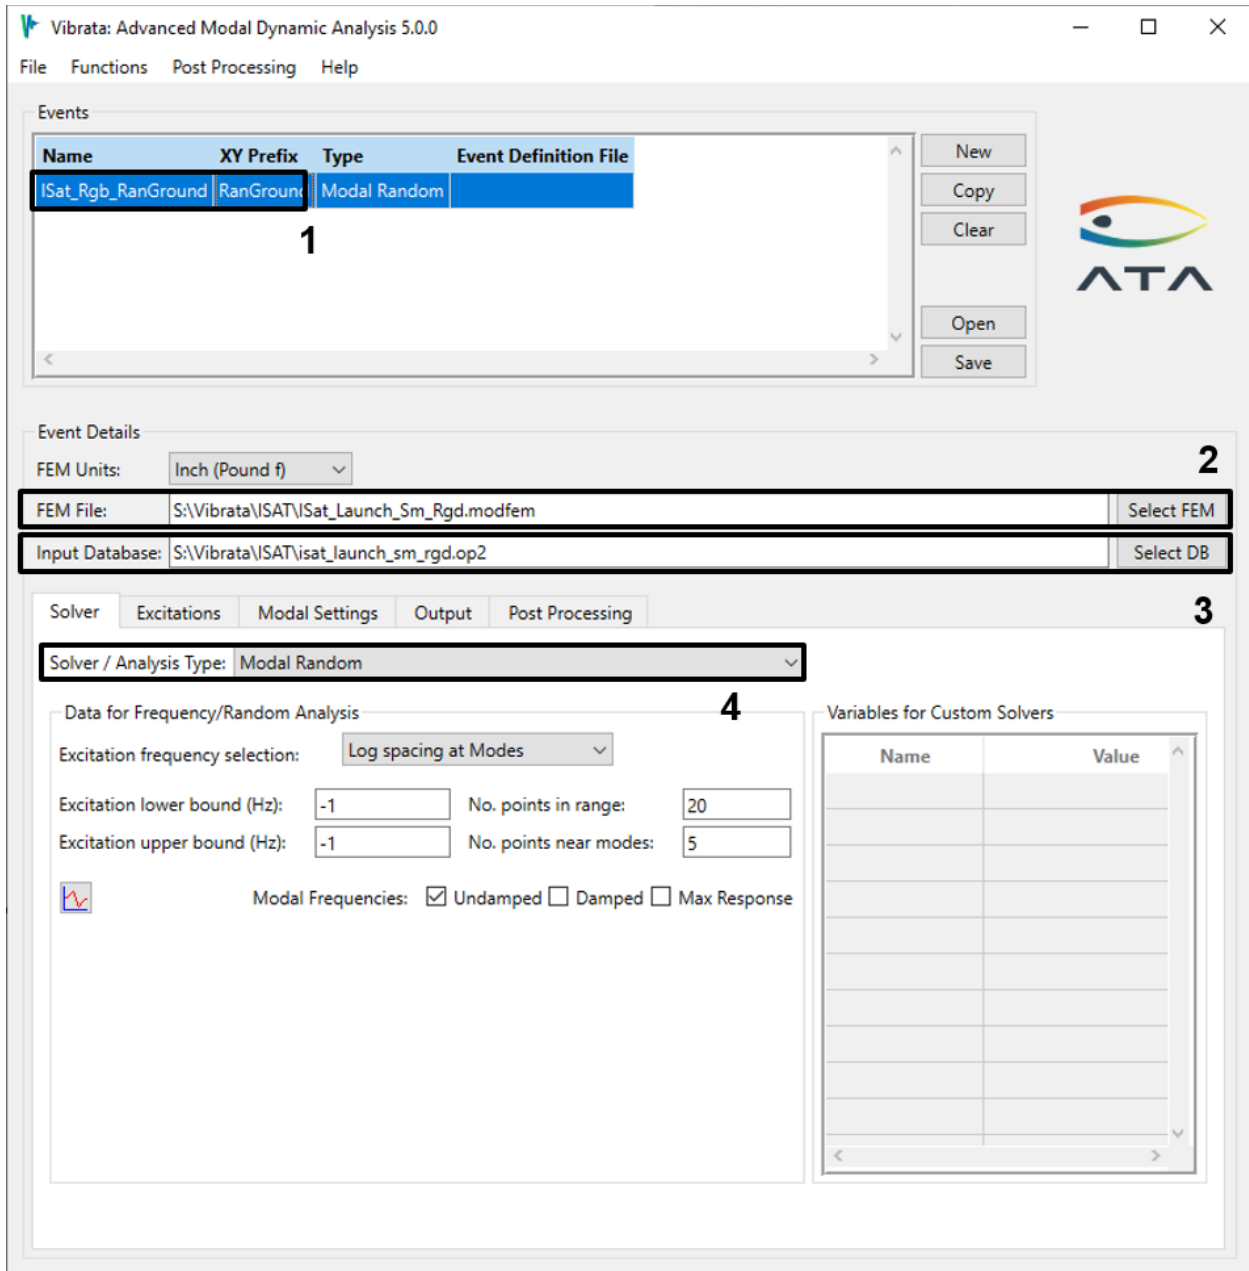

Figure 4-40. Create a new random analysis event.
2. Start a new event using the previously created modfem for the FEM and "isat_launch_sm_rgd.op2" for the results. Set the *Solver/Analysis Type* to *Modal Random*. Be sure to enter a recognizable event name (Figure 4-40).